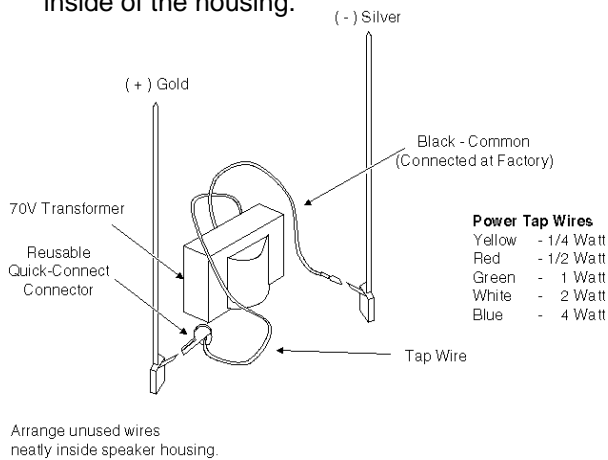

Figure 3. Connecting the Tap Wire (V-5330200 Only)
4. Connect the power-tap wire to the gold (+) terminal (See Figure 3).